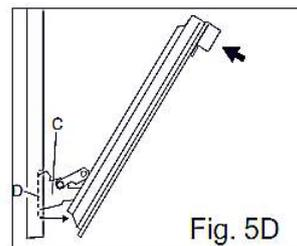

Fig. 5D
4. Using both hands, push the oven door lightly inwards to enable the door hinges "C" to come away from the slots "D" (see Fig 5D) and pull the door towards you until it is released from the oven